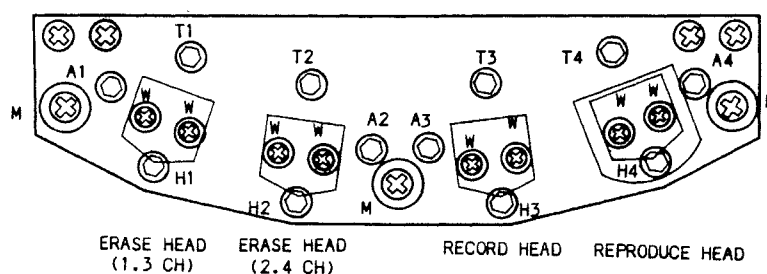

Figure 8-5 Head Assembly
The head assembly is mounted on three tape-guide posts and secured in place by the three screws labeled "M" in Figure 8-5.
7. Paint the head face with a soft crayon, run the tape for about ten seconds, and check the crayon rubbed away by the tape. If tape wrap is incorrect, adjust the wrap by loosening the screws labeled "W" as shown in Figure 8-5.
2. Observe the reading on the wave analyzer and turn screw "H" (Figure 8-5) 1/4 turn clockwise. If the reading decreases, turn the screws "A" and "T" 1/4 turn clockwise. If the reading increases when "H" is turned 1/4 turn clockwise, turn "H" counterclockwise past the original setting to 1/4 turn counterclockwise. If the reading decreases, turn screws "A" and "T" counterclockwise by the same amount.